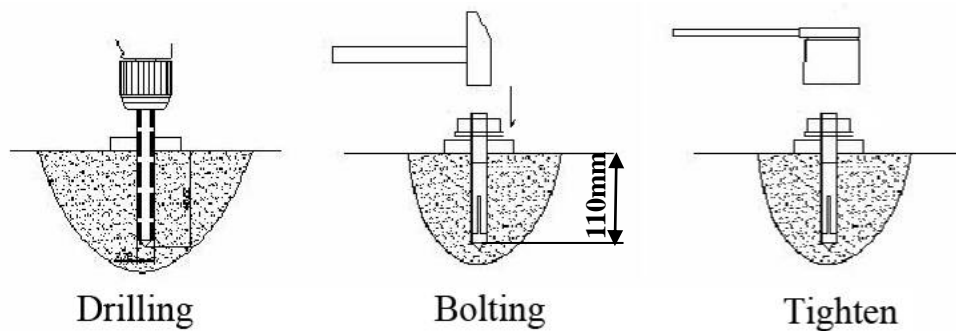

Fig.15
2. Using the prescribed rotary hammer drill, and drill all the anchor holes and install the anchor bolts. Then tighten the anchor bolts (See Fig. 15).